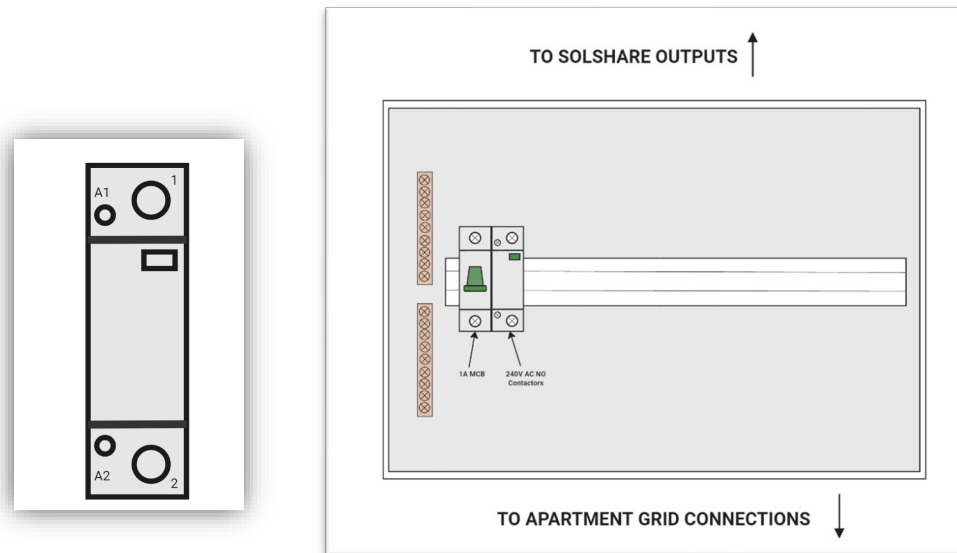

Figure 2. Contactor and MCB arrangement
- Refer to Fig 2. Below for more information.